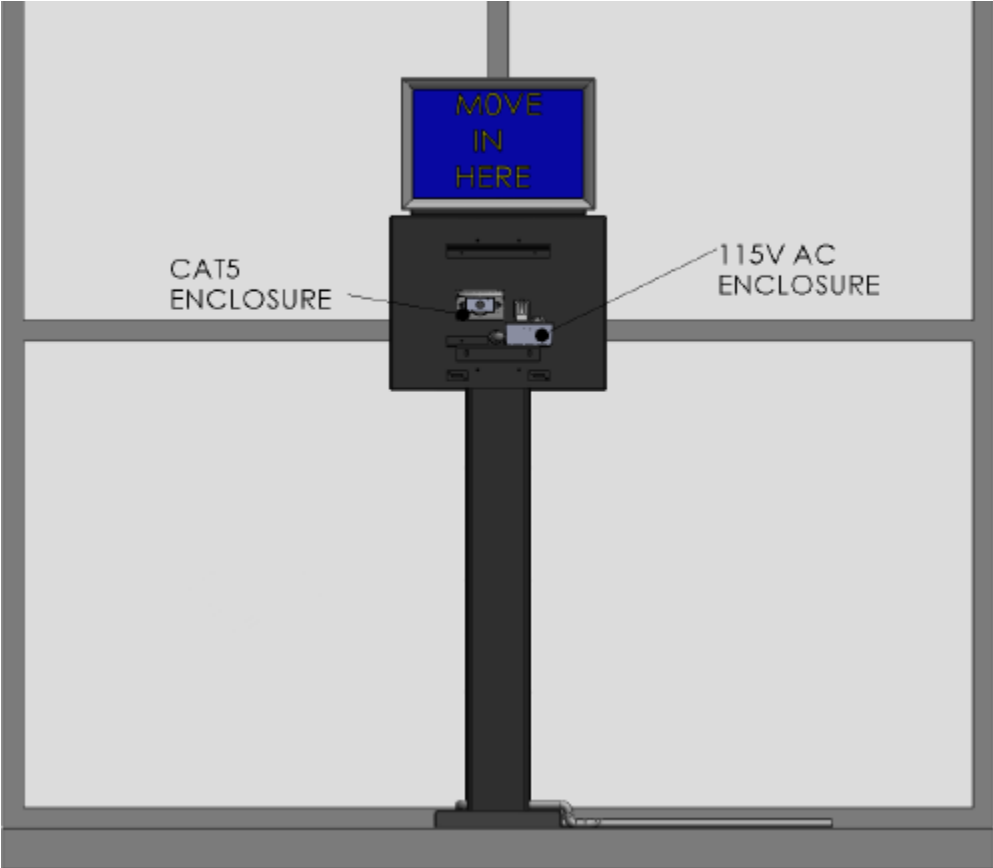

Figure 8: Pedestal Mount (Electrical Connections)
- Figure 8: Pedestal Mount (Electrical Connections)17